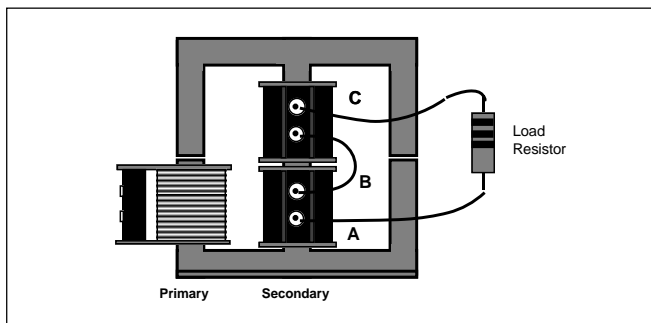

Figure 5
12. Now connect the two 400-turn coils so that they have maximum voltage and current output. With the 1000- Ω resistor as a load, connect the leads of the oscilloscope between points A and B as shown in Figure 5. What is the shape of the wave form? What is the waveform between points A and C? How does the size of the waveform between A and B compare to that between A and C?
13. In this step, set the triggering of your oscilloscope again to "LINE". Connect the ground lead (often a clip lead) from your oscilloscope to point B in Figure 5. With the probe at point A, note the waveform. With the probe at point C, again note the waveform and also any differences between that and the one found at point A. How would you describe this difference?